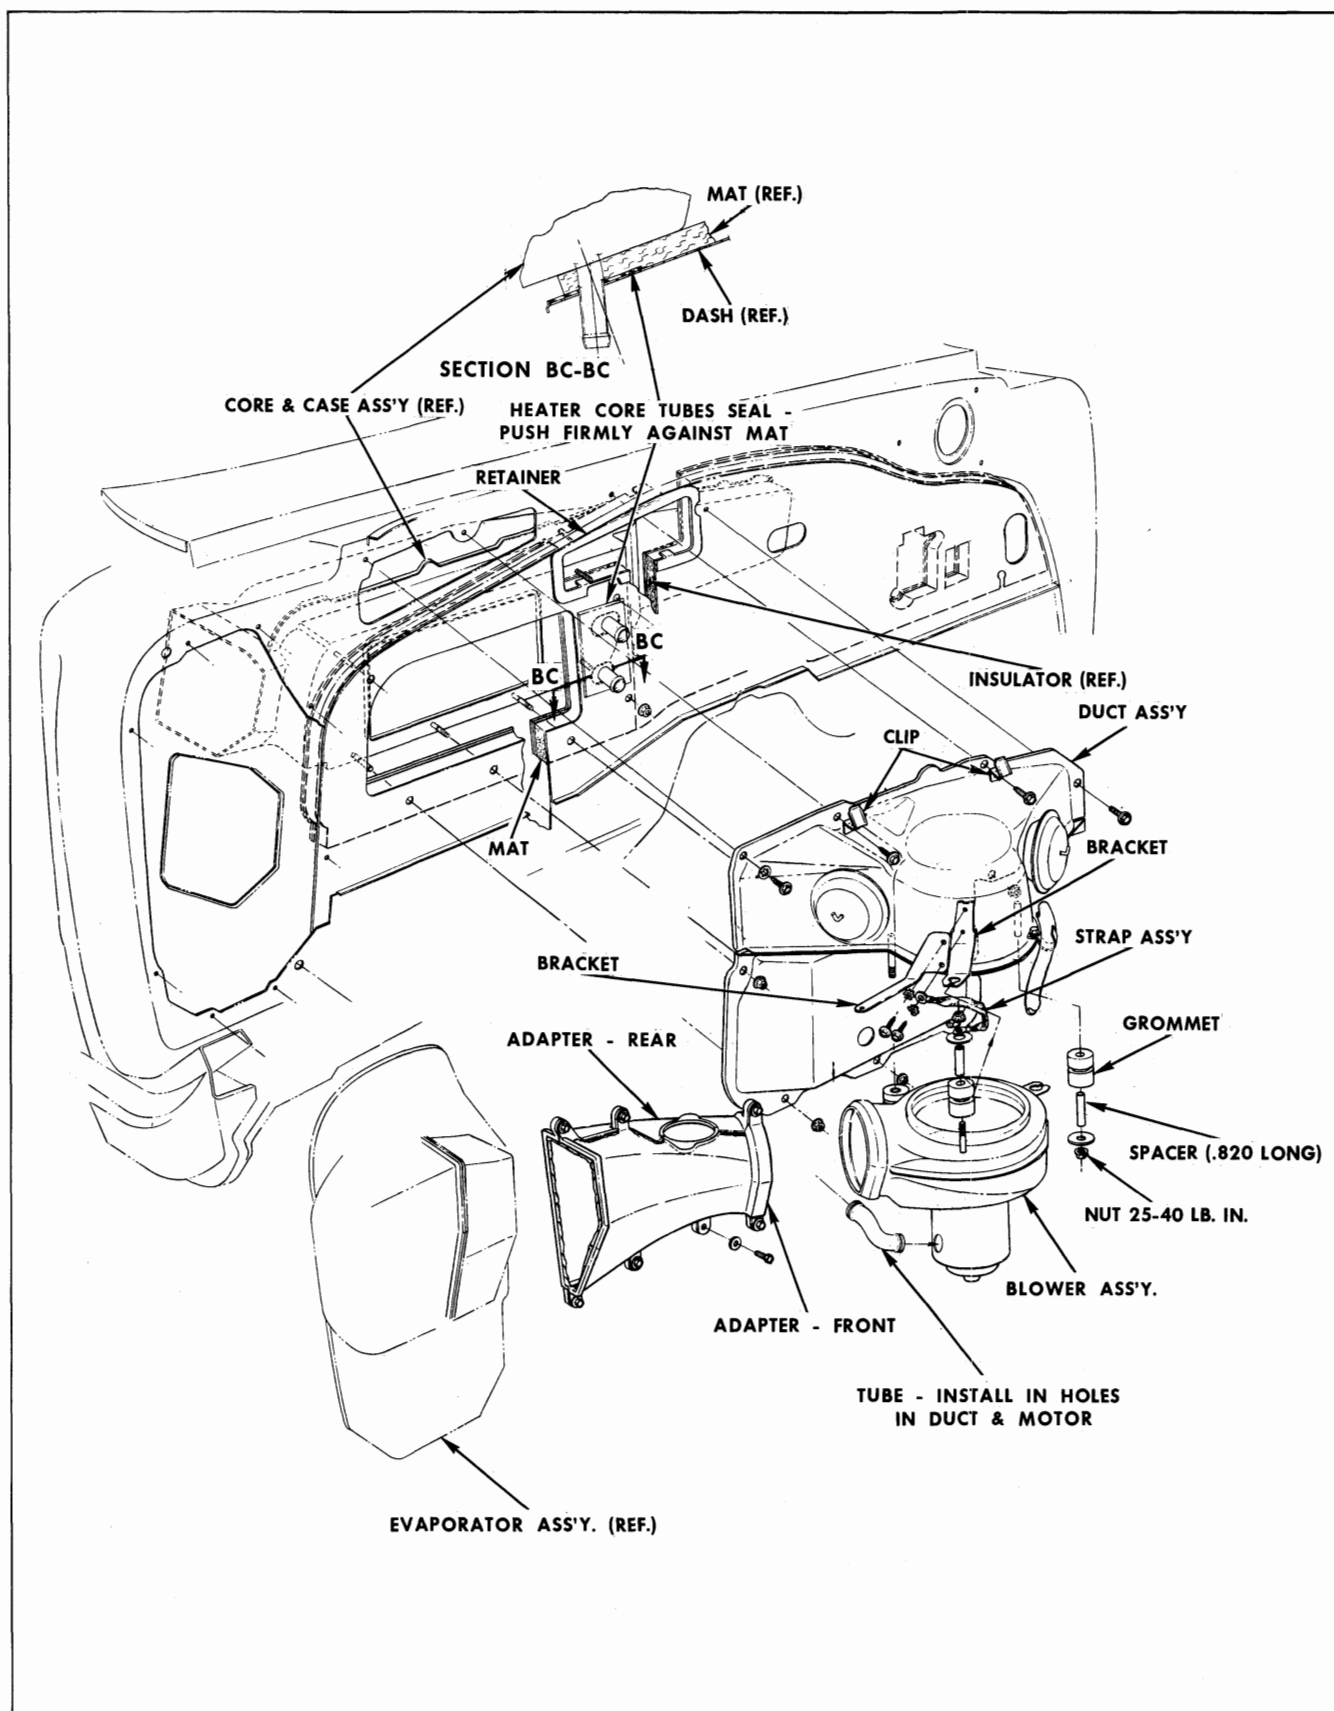

Fig. 4-1 Air System - Engine Compartment
3. To install, reverse removal procedures (Figs. 4-1 and 4-2).
The plenum blower case and blower motor may be removed as an assembly (Fig. 4-1).
7. Remove plenum blower assembly by breaking seal between air inlet duct and cowl and also between blower assembly and adapter duct (Fig. 4-1).